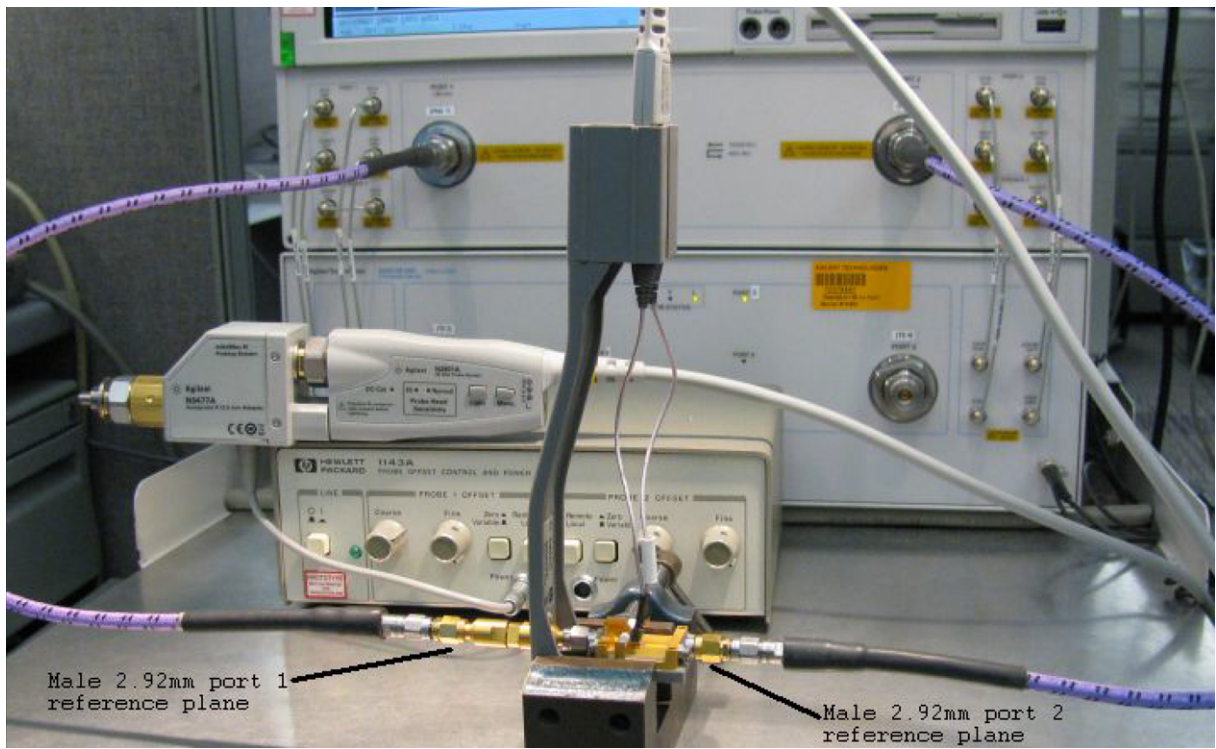

Figure 2 Setup for measuring “Vin” of probe
- 1 Calibrate the PNA to the two male 2.92mm connectors (connectors can be seen in Figure 2) using the N4692A-00F ECal module (or equivalent 2.92mm cal kit). **As with all precision connector interfaces, make sure to torque all connections using the proper torque wrench!**
- 3 Connect the 1250_1749 adapter and N5443A PV fixture assembly to the calibrated ports of the PNA as shown in Figure 2. A small bench vise is useful to hold PV fixture steady.